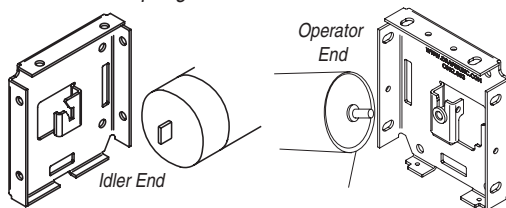

Figure 2
- ③ **For All:** Remove spring roller from its headbox. The one-notch spring roller is pre-tensioned and the dog is locked in the notch. Rotate the roller so that the spear end can be worked out of the slot in the spear endcap, then disengage pin end from other endcap (see Fig. 2). If tension is lost, add 8-11 pre-turns (if needed, a couple more pre-turns may be added).